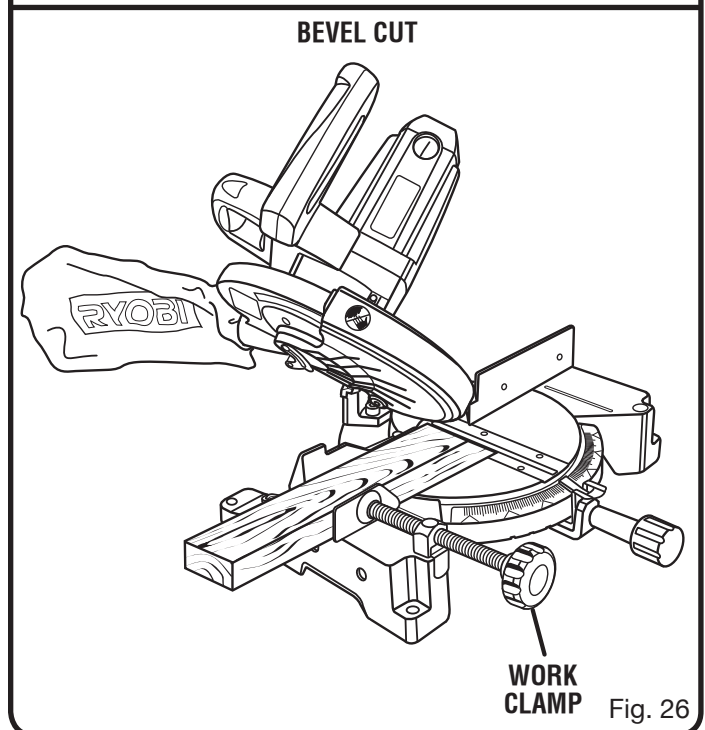

Fig. 26
- Grasp the stock firmly with one hand and secure it against the fence. Use the optional work clamp or a C-clamp to secure the workpiece when possible. *See Figure 26.*